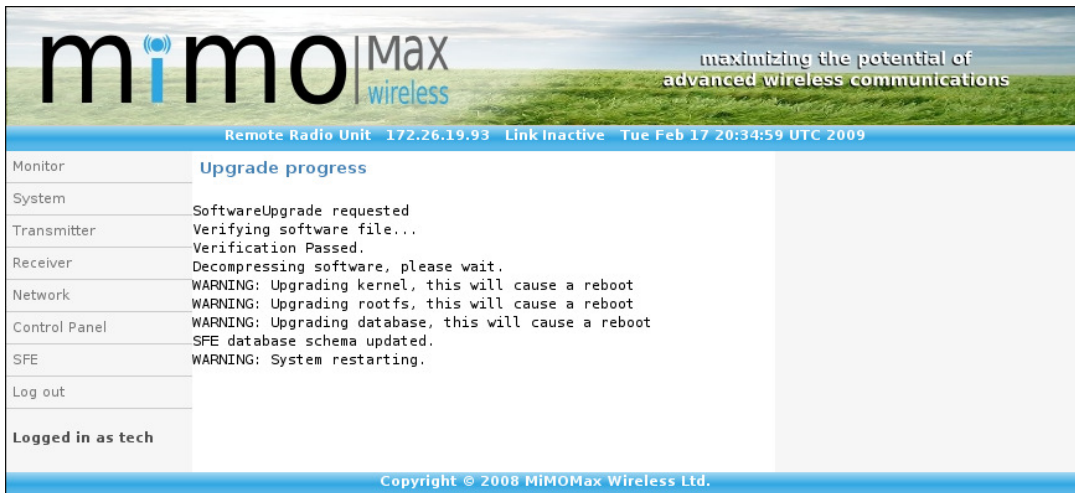

Figure 9: Software update progress page
- Once the upgrade process is started, the user will be redirected to a self-reloading page that shows the process status. It reloads every 5 seconds. See Figure 9.